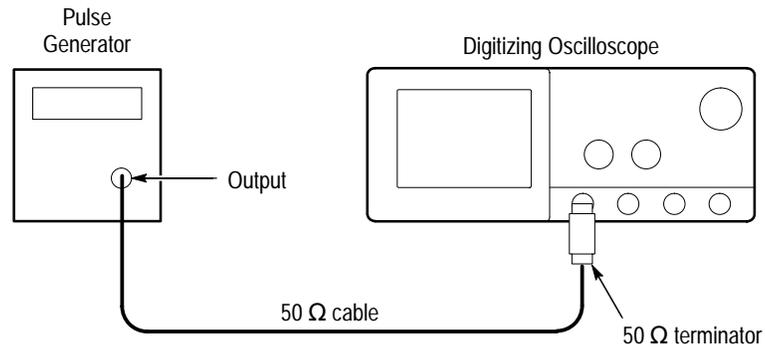

Figure 4–38: Setup for sync duty cycle test
- Connect the pulse generator through a 50  $\Omega$  cable and a 50  $\Omega$  terminator to the oscilloscope CH1 input. See Figure 4–38.
- Turn the pulse generator **OUTPUT (VOLTS)** control until the signal on the oscilloscope shows a one division negative going pulse. See Figure 4–39.